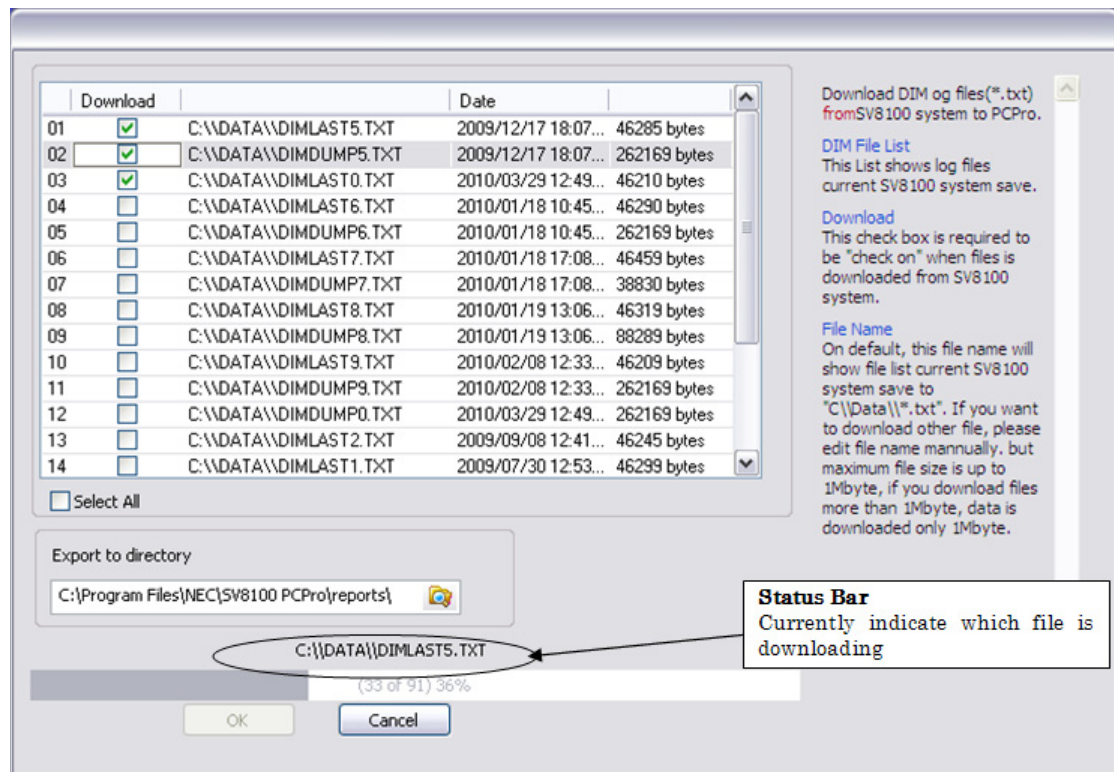

Figure J-3 DIM File Download Status
3. Click **OK**. PCPro begins downloading the selected file(s) from the system. A status line on the bottom indicates which file is being downloaded at that moment. Refer to Figure J-3 - DIM File Download Status.